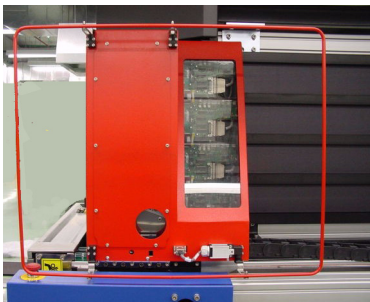

Figure 49. Head Carriage in Home Position
1. Make sure that the head carriage is in the *home* position, as shown in Figure 49.